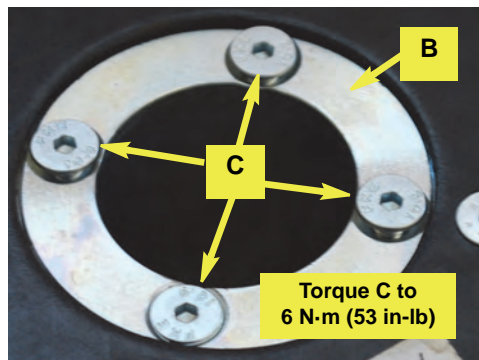

Figure 1b: Securing the shaft adapter
- b. Using the four countersunk screws **C**, secure the shaft adapter **B** in the steering wheel. Torque the screws to **6 N·m (53 in-lb)** (Figure 1b).